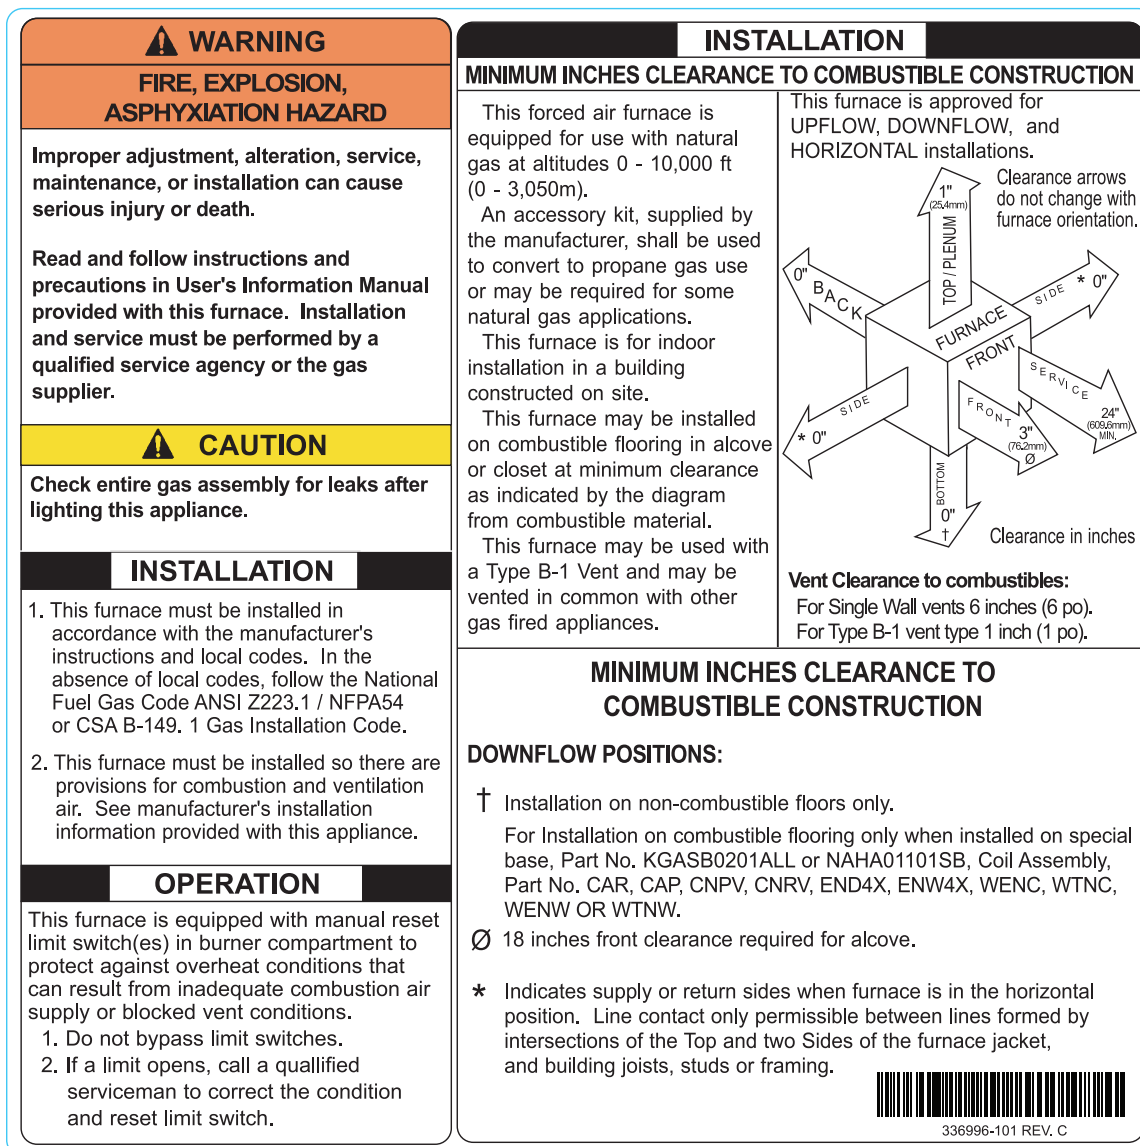

Fig. 2 - Clearances to Combustibles
11. See Fig. 2 for required clearances to combustible construction.
13. These furnaces **SHALL NOT** be installed directly on carpeting, tile, or any other combustible material other than wood flooring. In downflow installations, factory accessory floor base **MUST** be used when installed on combustible materials and wood flooring. Special base is not required when this furnace is installed on manufacturer's Coil Assembly Part No. CAR, CAP, CNRV, and CNPV, or when Coil Box Part No. KCAKC is used. See Fig. 2 for clearance to combustible construction information.